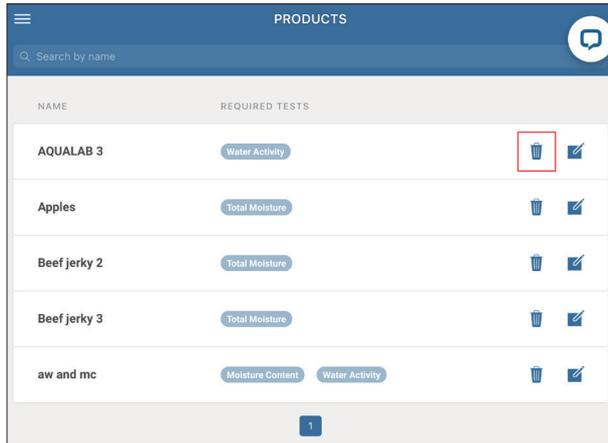

Figure 35 Products list
3. Press on the garbage can icon to remove the product (Figure 35).